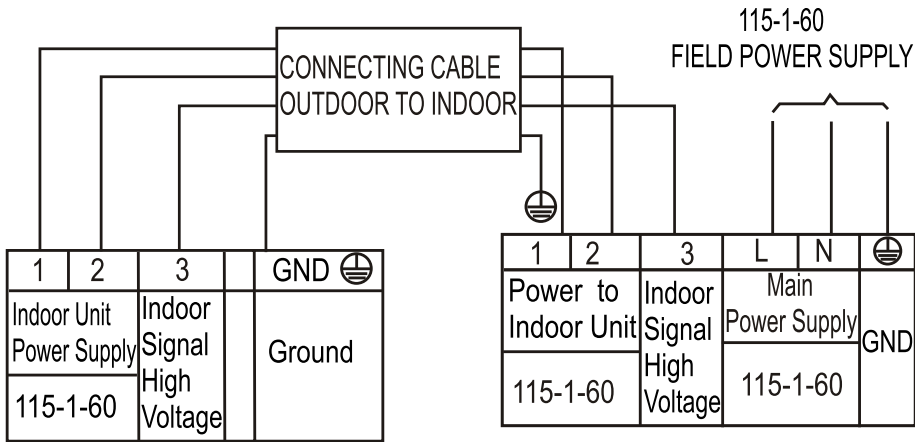
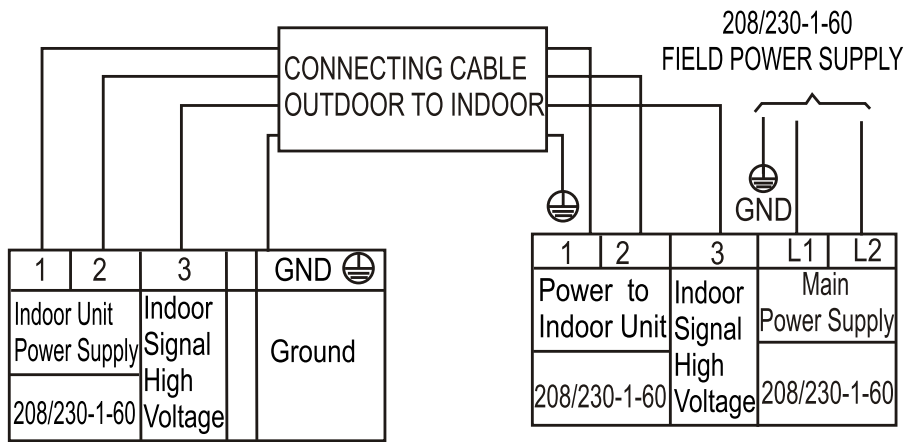

Fig. 23 — Connection Diagram 12K (115V)
Fig. 25 — Connection Diagram 24K - 36K (208/230V)
8. Connect the wiring from the outdoor unit per the connection diagram (see Figure 23 - Figure 25).